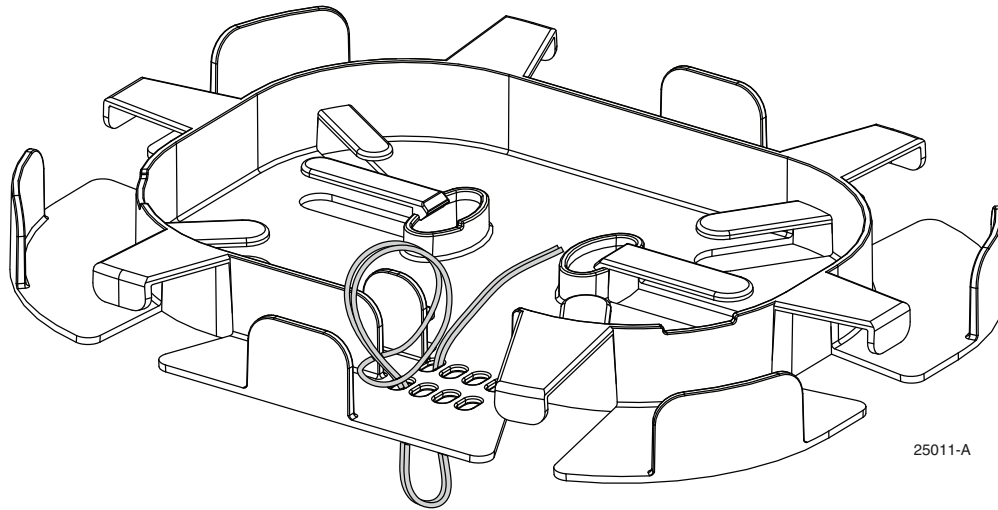

Figure 18. Forming a Loop
6. Cut off a length of wax lacing about 36 inches (91 cm) long and double it over to create a double stranded wax lacing, then bend the closed end of the wax lacing up and over itself to form a loop (Figure 18.) This is to form a cinch knot allowing the lacing be to tightened.